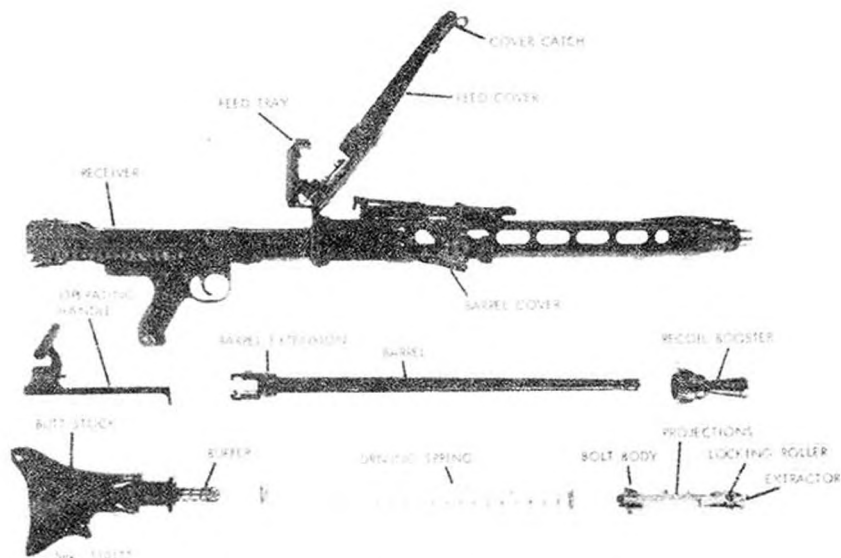
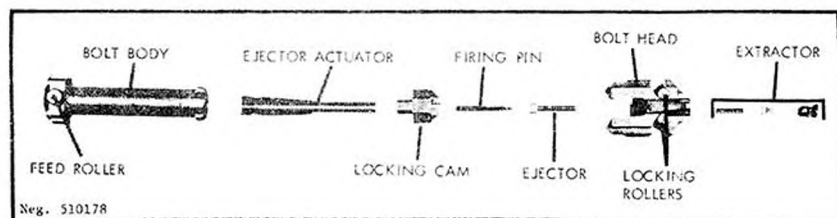

Figure 178. MG-1 disassembled.
Figure 179. MG-1 bolt.
d. Pull the locking rollers (fig 178) to the side in the bolt head; then twist the bolt head counterclockwise until it is free of the bolt body. The ejector actuator, locking cam, and firing pin can now be removed from the disassembled bolt. Note: Some guns have a powerful spring housed in the bolt body; use care when twisting the bolt head.
f. To reassemble the gun, insert the flat end of the firing pin into the locking cam and place the locking cam into the bolt head. Slip the ejector into the bolt body. If the bolt has an internal spring and plunger, install these parts with the plunger toward the narrow end of the ejector actuator. Place the bolt head over the bolt body and twist the bolt head so that the extractor is in line with the double projections (fig 178) on the bolt body.
Insert the driving spring into the receiver and use the spring to push the bolt fully home. Slip the buffer (fig 178) into the driving spring. Hold the butt twisted to 90° and insert its threaded section into the receiver; rotate the butt until the butt catch snaps into place. Close the cover and press the safety to the left. Fold the bipod.
- c. There is a locking roller (fig 179) on each side of the bolt head (fig 179); rails on the inside of the receiver hold the rollers in their inner position until the bolt head enters the barrel extension (fig 178). After the bolt head enters the barrel extension, the locking cam (fig 179) forces the locking rollers outward and into the locking recesses in the barrel extension. The firing pin is carried in the locking cam, and after the locking rollers are engaged with the barrel extension, the cam drives the firing pin into the primer of the cartridge and fires the cartridge.
h. The recoil and counterrecoil movement of the bolt operates the feed mechanism. A long, curved belt-feed lever, pivoted at the rear end of the cover, has a channel running along its length. This channel fits over a roller or stud at the top rear of the bolt carrier (fig 179). As the bolt moves rearward in recoil (in a straight line), the roller causes the front of the curved belt-feed lever to move sideways. The belt-feed lever, in turn, operates an intermediate feed lever; this lever (fig 177) fits into the belt-feed slide and moves the slide back and forth. A spring-loaded feed pawl, mounted on the slide, rides on the ammunition belt and feeds it into the gun. The cartridges are held in the feed tray's feed slot by a cartridge hold-down; this part also serves a pawl to hold the belt in the gun.